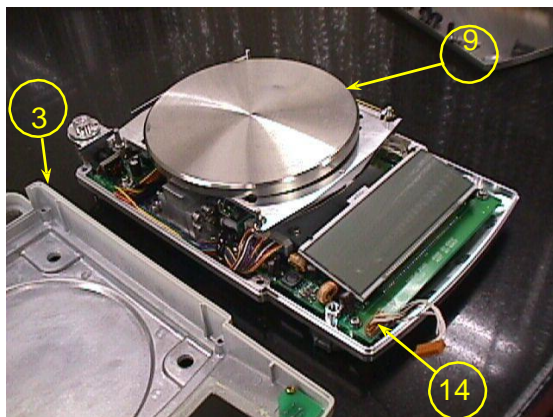

Fig.4
- Detach the Assy,Case (3) from the Assy,Base (2), and disconnect the Cable,L105 connector (14) at the Assy,Display (B4)(Fig.4).
- Remove the Calibration weight (9).